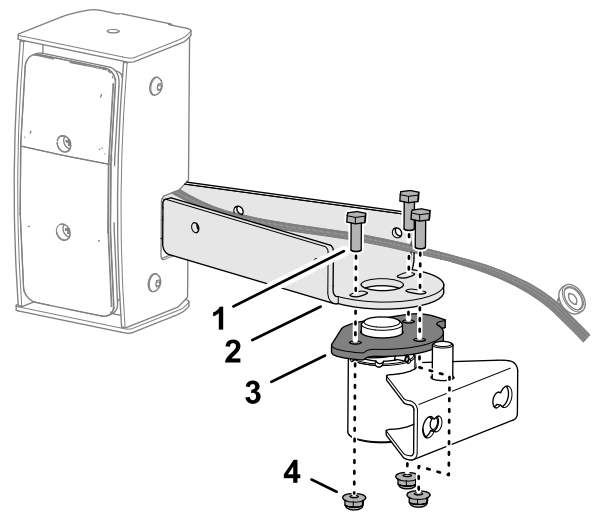

Figure 49
5. Install a pivot bracket to the light-housing mount (Figure 49) with 3 capscrews (1/4 x 3/4 inch) and locknuts (1/4 inch).